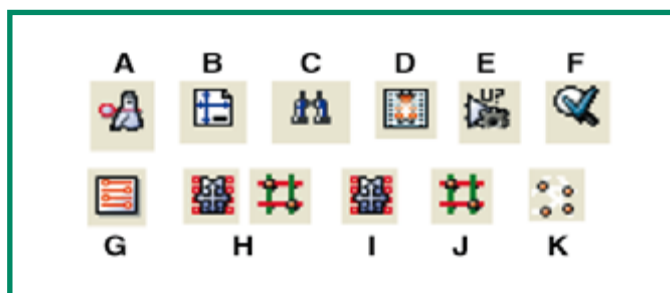

Figure 8. The main icons on a large scale and in low resolution (the originals are a standard size, 16 x 16 pixels).
*Due to their small size, we propose icons in a magnified version in Figure 8 with the reference letter. The icon H is actually a double icon.*